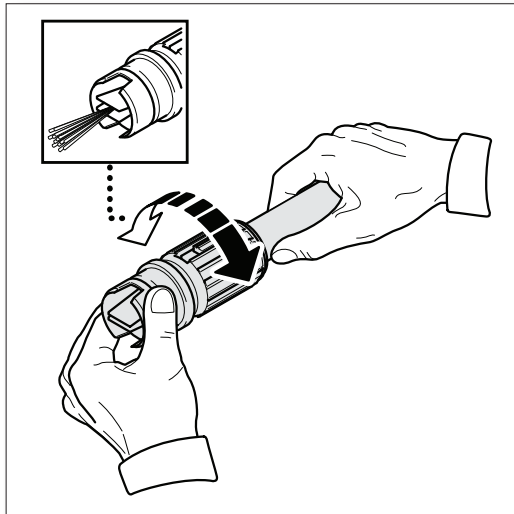

Fig. 22
- Take off the adjustable lance. Rotate the nozzle on the adjustable lance to the narrow stream setting which opens up the fan blades. (**Fig. 22**).